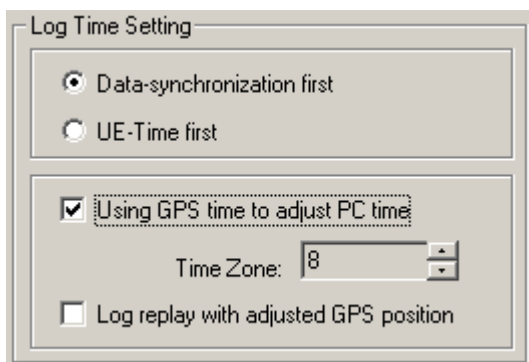

Figure 6-33 Adjusting the PC time
- 2) Select the **Use GPS time to adjust PC time** check box to set the GPS UTC time to the PC time, as shown in Figure 6-33.